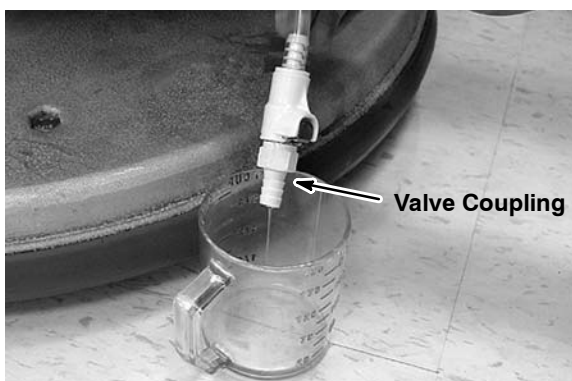

FIG. 58
5. Disconnect the opposite end of the FaST supply hose at the white check valve and drain the detergent from the hose (Figure 58). Reconnect the check valve after draining. To access the injector assembly remove the front shroud.